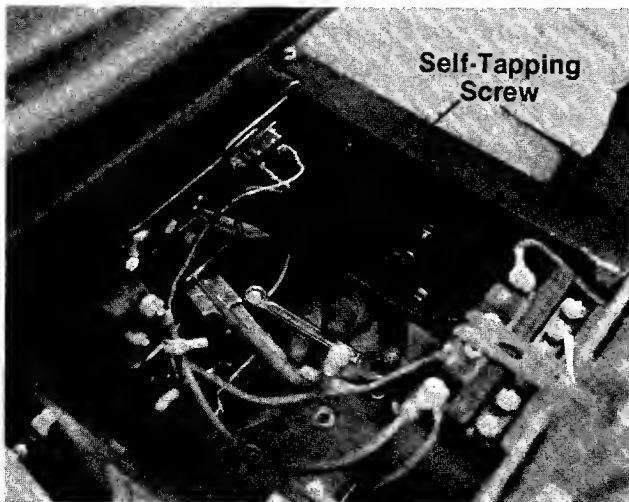

FIGURE 31.
5. Remove two self-tapping screws which hold the transaxle belt guard to the top of the transaxle. See figure 31.